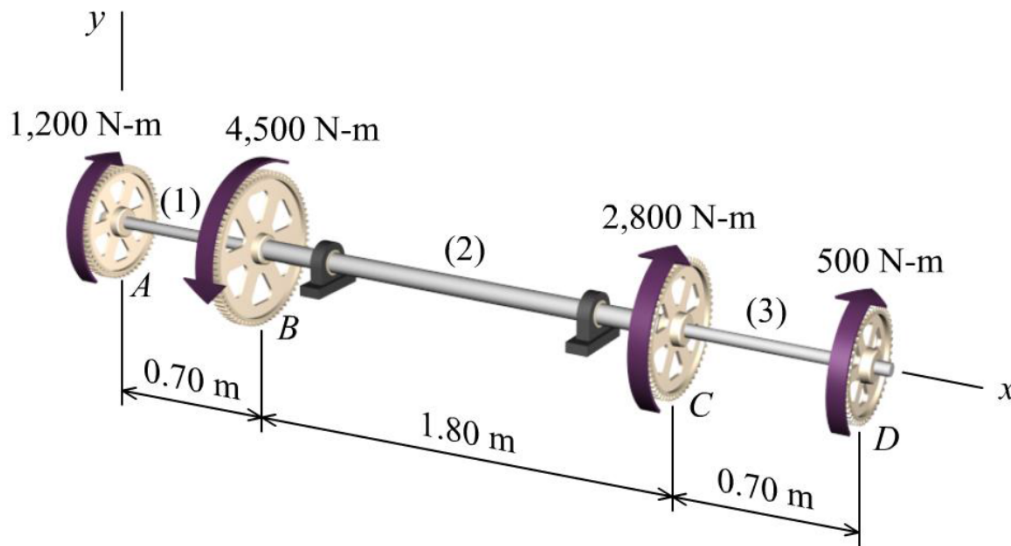

Figure 3
**Q3.** A solid steel [ $G = 80 \text{ GPa}$ ] shaft of variable diameter is subjected to the torques shown in Figure 3. The diameter of the shaft in segments (1) and (3) is 50 mm, and the diameter of the shaft in segment (2) is 80 mm. The bearings shown allow the shaft to turn freely.
- Determine the rotation angle of pulley D with respect to pulley A. Plot a torque diagram showing the internal torque in segments (1), (2), and (3) of the shaft.